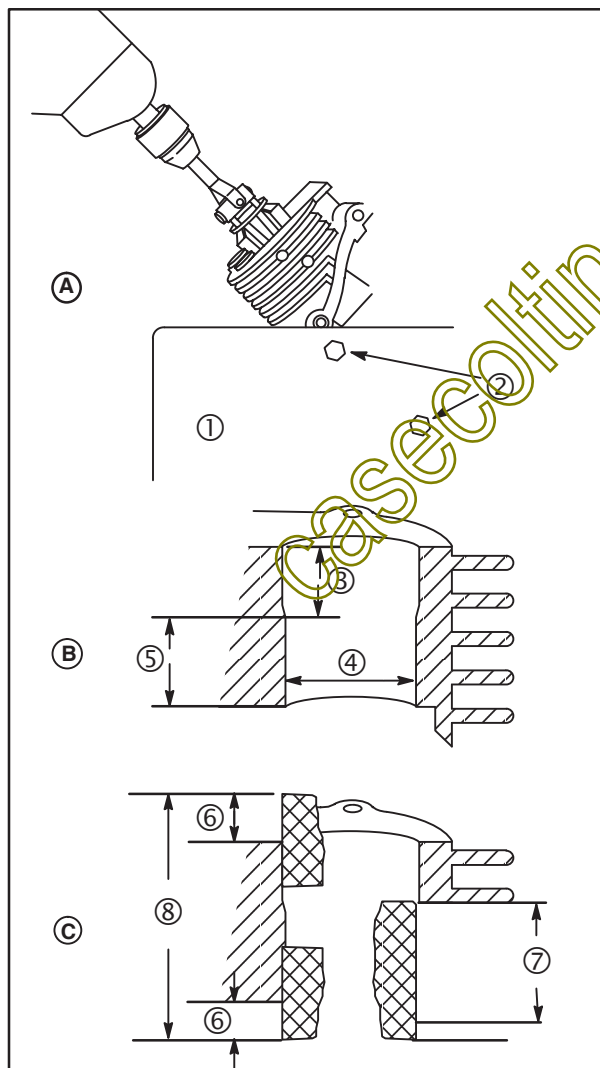

Fig. 3
1. Use crankcase cover mounting screws (2) to fasten cylinder to a honing fixture (1), **Fig. 3 (A)**.
Lubricate hone as recommended by hone manufacturer. The recommended drill speed is **300 – 700 RPM** and **40 - 60 strokes per minute**. Because cylinder bores normally wear only in the area of ring travel (3), the cylinder bore will be round above and below ring travel area, **Fig. 3 (B)**. Start drill and, as hone spins, move it up and down (7) at the bottom of the cylinder bore (4). Gradually increase the length of the strokes until hone travels full length of cylinder bore (8), but no more than **3/4 – 1" (19 – 25 mm)** above or below (6) cylinder bore, **Fig. 3(C)**. Lubricate hone frequently to prevent build up on stones.